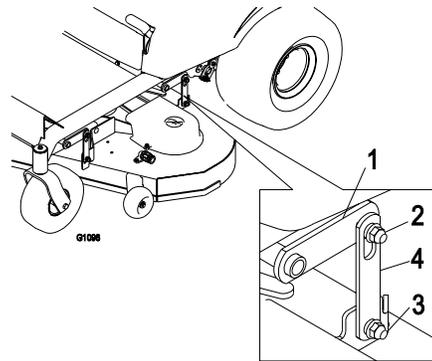

Figure 42
10. Loosen the leveling adjust locking nuts (item 3) on all four corners so that the deck is sitting securely on all four blocks. Make sure that the deck hangers are all the way down (at the top of the slot) and the deck lift foot lever is pushed back against the stop, then tighten the four leveling adjust locking nuts (Figure 42).